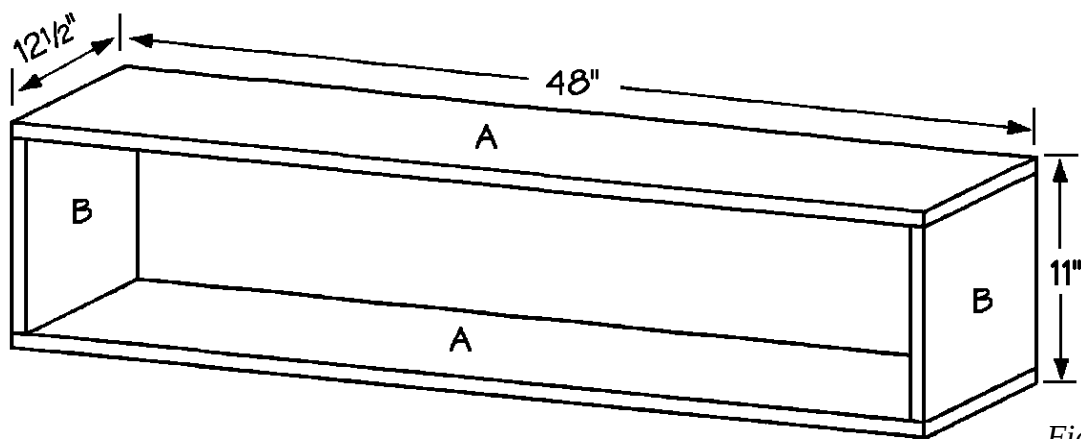

Figure 1
1. Cut two top/bottoms (A) from 3/4-inch plywood, each measuring 48 x 12-1/2 inches.
2. Cut two sides (B) from 3/4-inch plywood, each measuring 9-1/2 x 12-1/2 inches.
3. Place the two top/bottoms (A) on a level surface, parallel to each other and 9-1/2 inches apart. Fit the two sides (B) between the ends of the two top/bottoms (A), as shown in *Figure 1*. Apply glue on the meeting surfaces, and screw through the top/bottoms (A) into the edges of the sides (B) using four 1-1/2-inch screws on each joint.